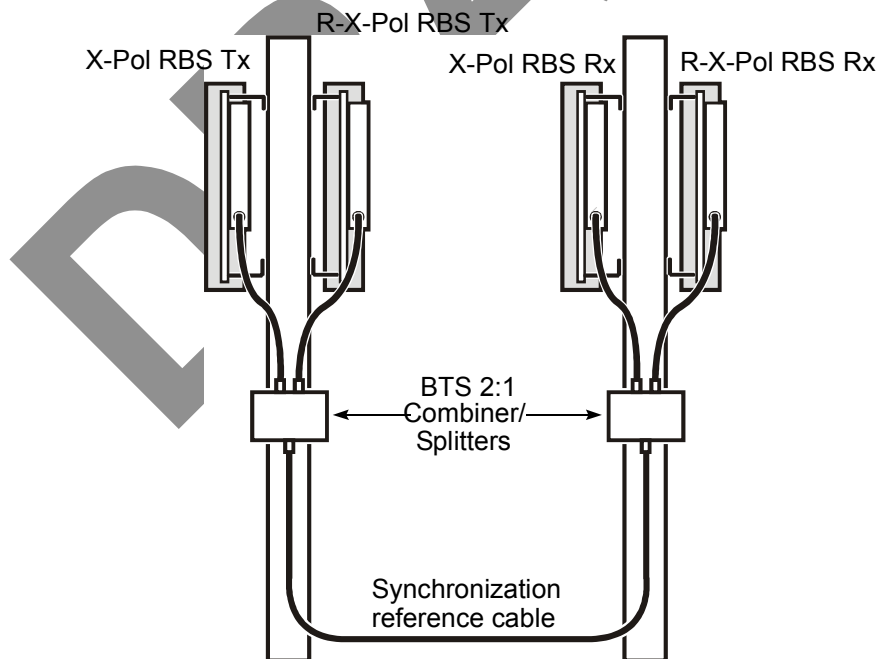

Figure 33 – Reference cables for redundant X-Pol RBS Tx/X-Pol RBS Rx configurations
Figure 33 shows a redundant X-Pol RBS Tx/X-Pol RBS Rx synchronization reference cable configuration.
Using a metal hose clamp, attach a 2:1 Combiner/Splitter to the X-Pol RBS Tx pole under the X-Pol RBS Tx/R-X-Pol RBS Tx pair; see *Figure 33*.
3. Install an N(M) connector on each end of the each cable.
4. Connect the four cables to the X-Pol RBS Tx and X-Pol RBS Rx, as shown in *Figure 33*.
7. Install an N(M) connector on each end of the cable.
9. Connect the cable to the 2:1 Combiner/Splitters, as shown in *Figure 33*.